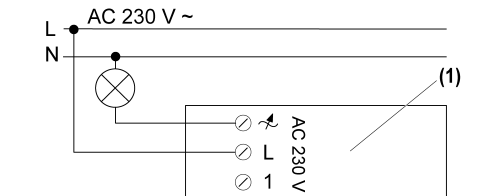
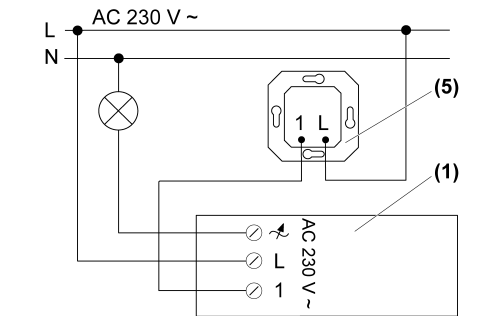
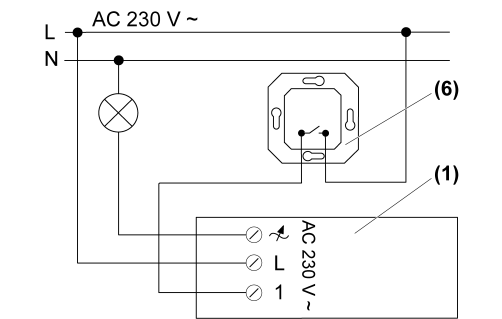

Figure 3: Connection diagram for dimmer
Figure 4: Connection diagram for dimmer with extension 2-wire
Figure 5: Connection diagram for dimmer with installation button
- Connect the dimmer according to the appropriate connection diagram (Figure 3), (Figure 4) or (Figure 5).